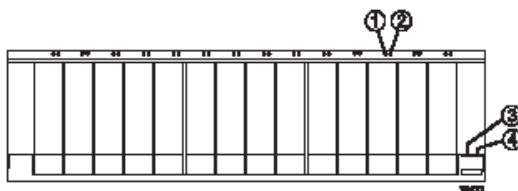
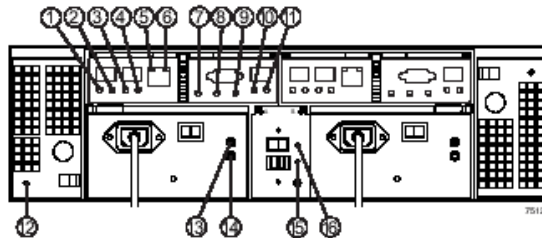

FIGURE 3-14 Lights on the Front of a Command Module
FIGURE 3-15 Lights on the Back of a Command Module
9. Check all of the lights on the front and the back of each module. Figure 3-14 and Figure 3-15 show the locations of indicator lights. Table 3-2 and Table 3-3 refer you to the appropriate procedures for various fault indicators. Go to the page indicated in the tables, and perform the procedure for replacing any failed component as needed.
Figure 3-14 on page 3-23 and Figure 3-15 on page 3-24 show the locations of indicator lights. Table 3-2 and Table 3-3 refer you to the appropriate procedures for various fault indicators. Go to the page indicated in the tables, and perform the procedure for replacing any failed component as needed.